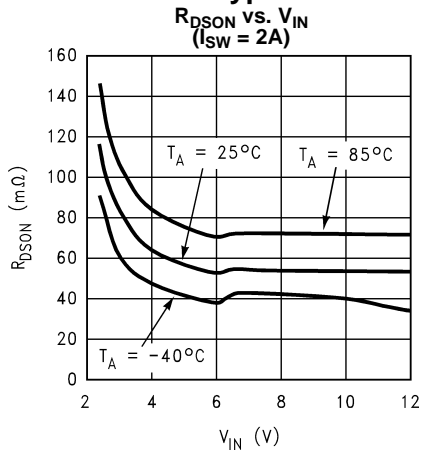

Figure 9.
- R_{DSON} is the ON resistance of the internal switch taken Figure 9 (5)
- R_{DSON} is the value chosen from Figure 9 (19)